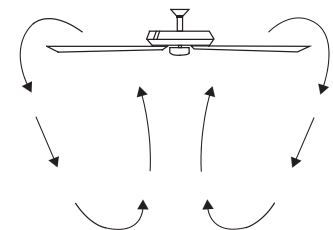

Fig. 13
13. On this setting the fan will turn clockwise. Use this function during cooler weather to re-circulate air (Fig. 13).